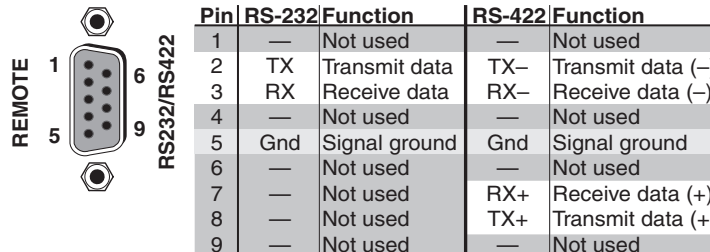

Figure 2-10 — RS-232/RS-422 connector
- ⑧ **RS-232/RS-422 connector** — Connect a host device, such as a computer, touch panel control, or RS-232 capable PDA to the switcher via this 9-pin D connector **on BME 0 only** for serial RS-232/RS-422 control (figure 2-10).